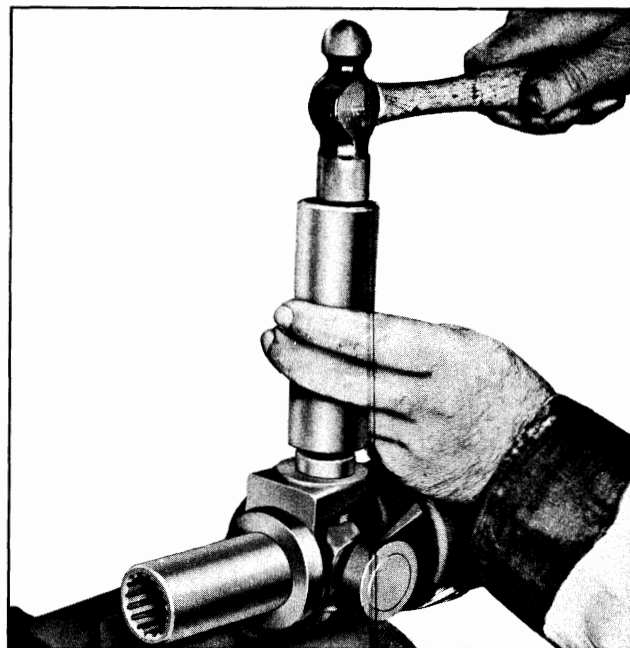

Fig. 4A-5 Removing Bearing From Splined Yoke Member
d. With yoke down as far as possible, place one or more flat washers ($\frac{9}{16}$ " O.D.) inside lower bearing (Fig. 4A-6).